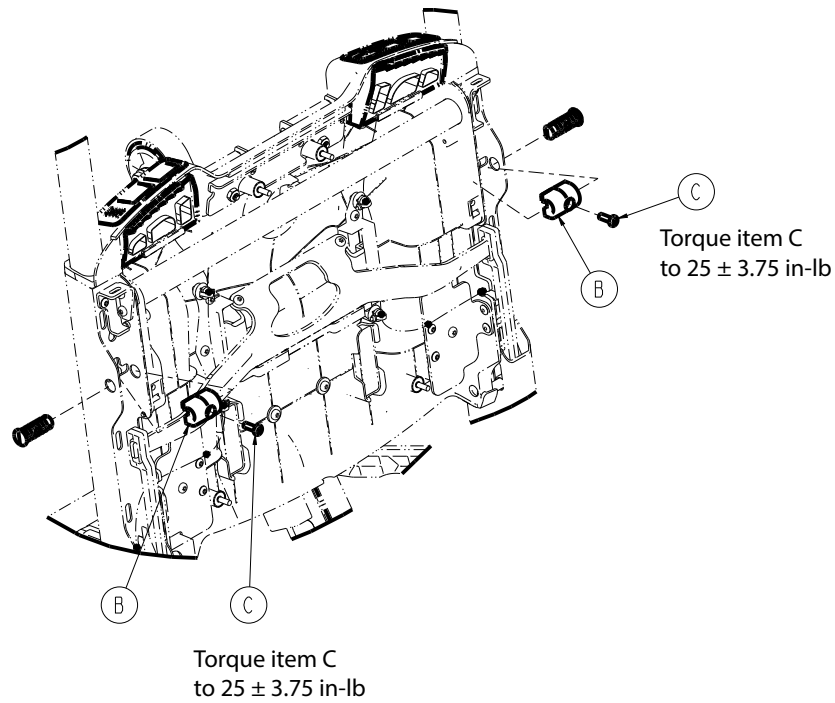

Figure 40 –
10. Using a T25 Torx driver, remove the pan head thread forming screws (C) that secure the grab bar dead stops (B) to the grab bar (Figure 40).